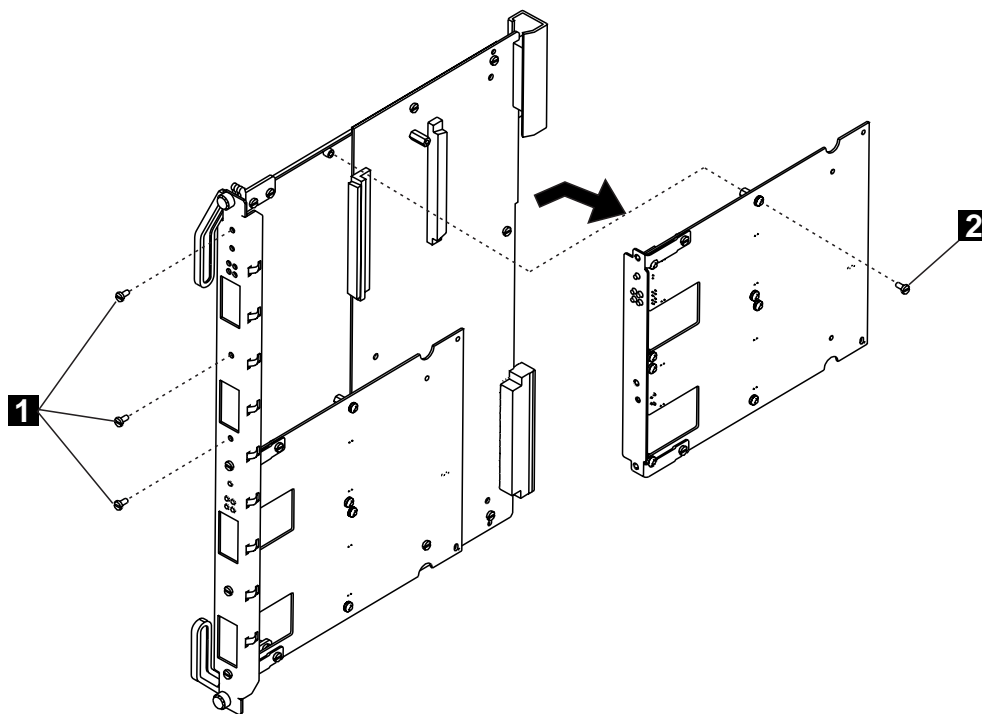

Figure 3. Removing the Motherboard
- **2** Detach the motherboard on which you want to install the I/O card by removing the four screws (**1** and **2** in Figure 3) that hold the motherboard to the module. Save the screws in order to reattach the motherboard.